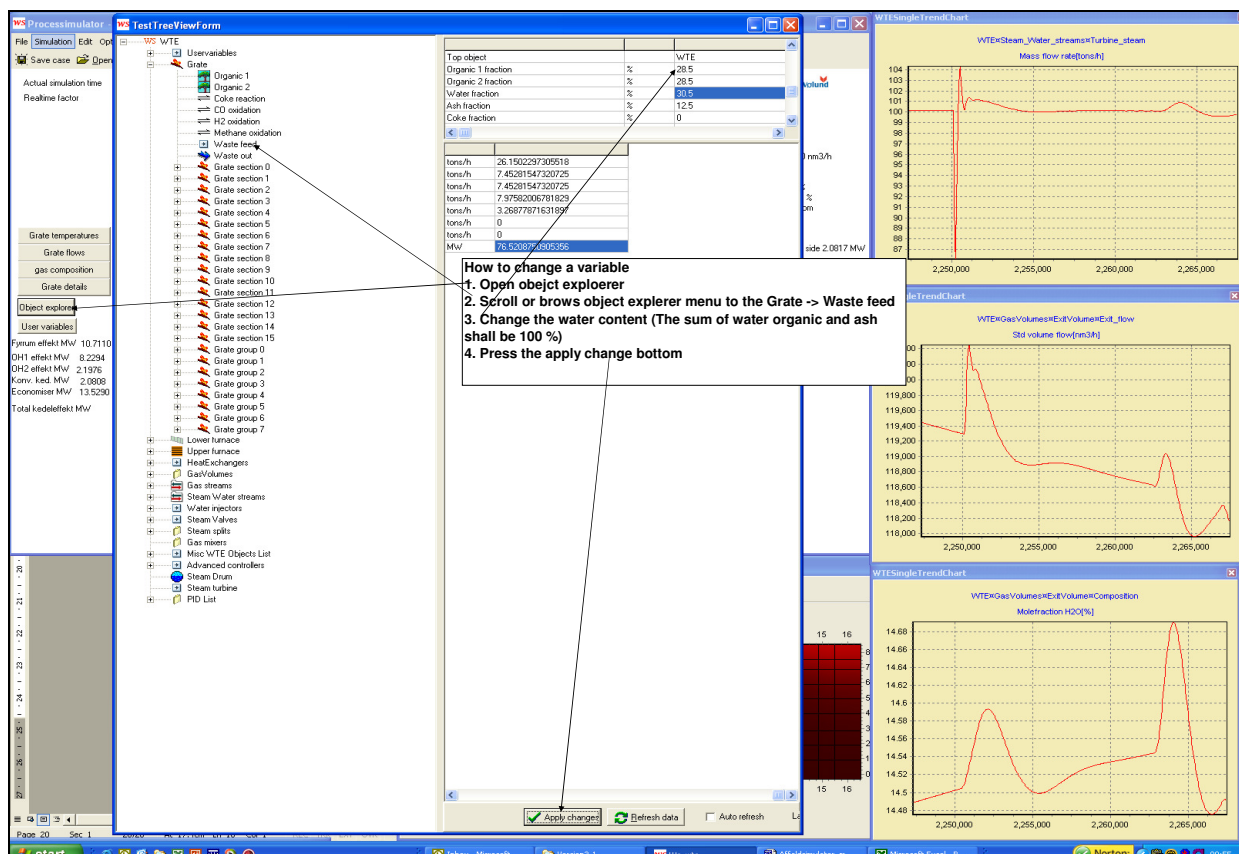

Figure 31. How to change the water content in the waste from the menu button **Object explorer**.
2. Then click **Waste feed**, for showing the table with the composition of the waste (see Figure 31).